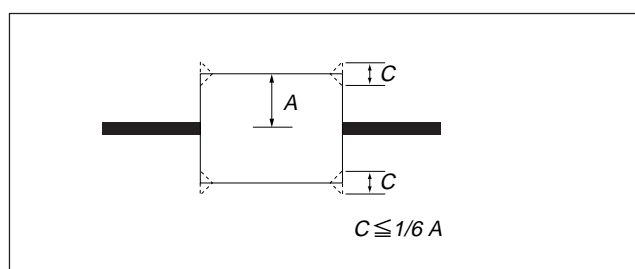

Fig. 5-11.
- 3) Confirm that the RF waveform does not fluctuate too excessively.(Refer to Fig. 5-11)